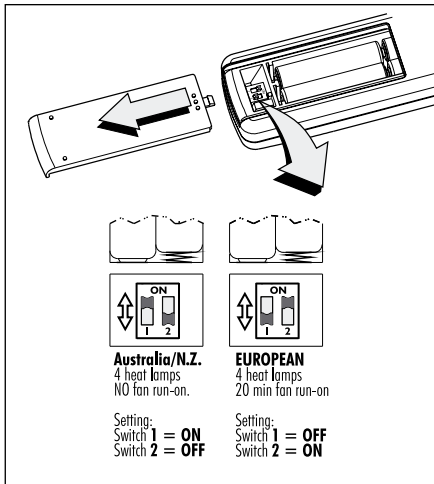

Fig. 32
5. Models 11521 and 12521. Ensure that the dip switches in the hand set are correctly set for your local ventilation requirements as shown in Fig. 32.
The factory preset of the Dip Switches is for Europe (20 min fan run-on), all other country/regions are to reset dip switches as per local ventilation requirements. Recommended settings as per details shown in Figs. 32 & 33.
This Tastic includes an automatic run-on for the fan. Each time the fan is switched on, it will run for a minimum of 20 minutes. If you switch the fan OFF during this time, the fan will run-on for the remainder of the 20 minutes. If you switch the fan OFF after the fan has run for at least 20 minutes, the fan will stop. See Fig. 32 for handset switch settings.